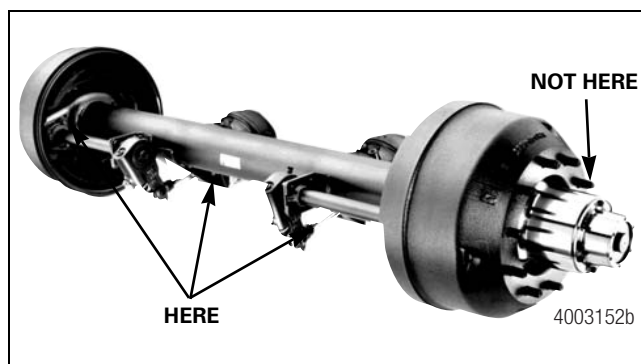

Figure 7.4
- Welding equipment should be grounded to the axle through a cable connection that is both clean and tight. The connection should be located at one of the parts welded to the axle such as the camshaft bracket, air chamber bracket or brake spider. It should not be located at a suspension spring, a U-bolt or a point that will place a wheel bearing between the ground connection and weld area. Figure 7.4.